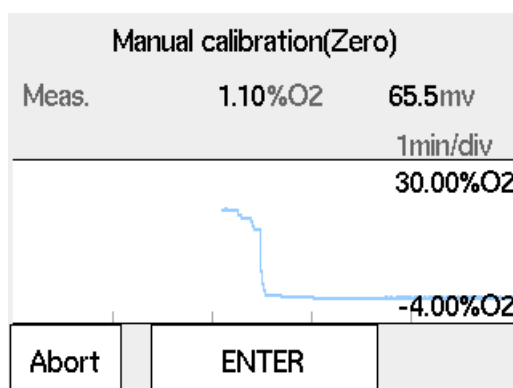

Figure 6.23 Trend in Zero gas calibration
- (8) Similar to span calibration, selecting “Start calibration” displays the trend graph of the oxygen-concentration reading being measured (Figure 6.23) on screen. Wait for the reading to stabilize near the zero gas concentration by monitoring the graph and the sensor electromotive force. At this point, calibration is not yet executed, so it is acceptable for the reading to deviate from the zero air concentration.